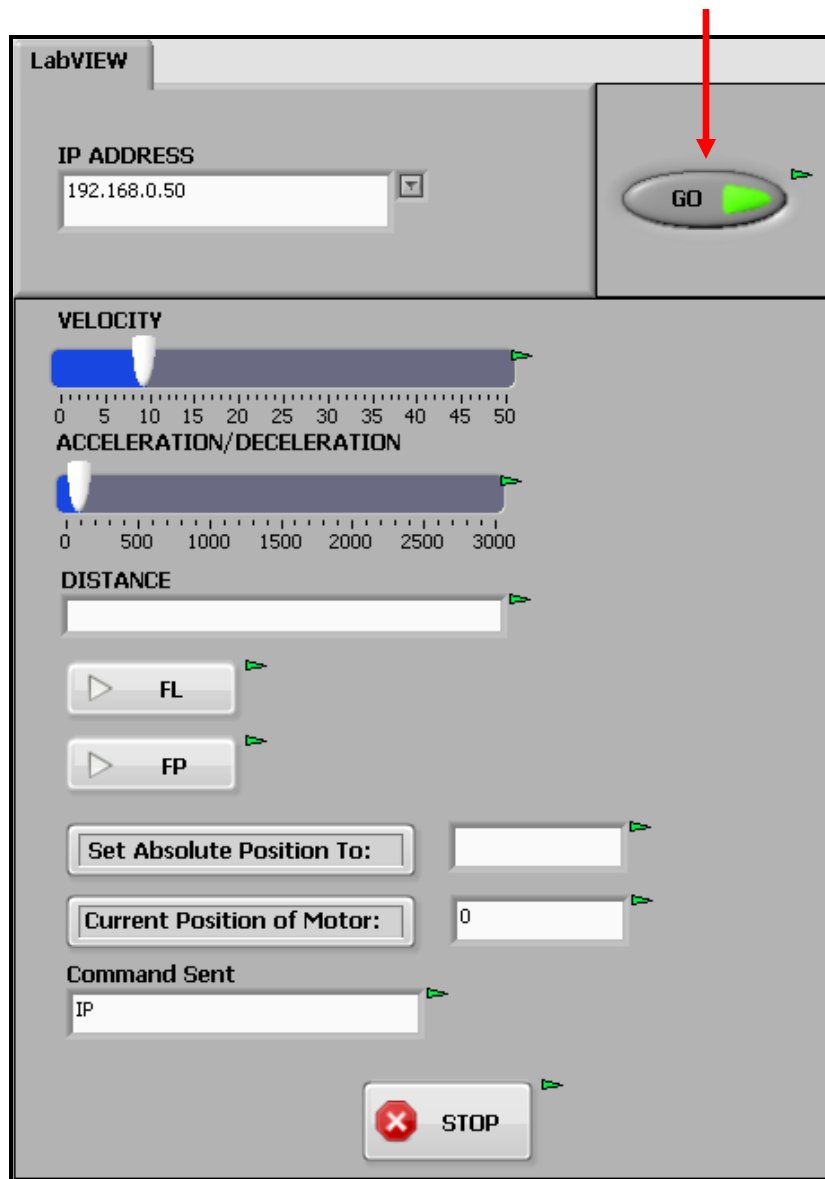
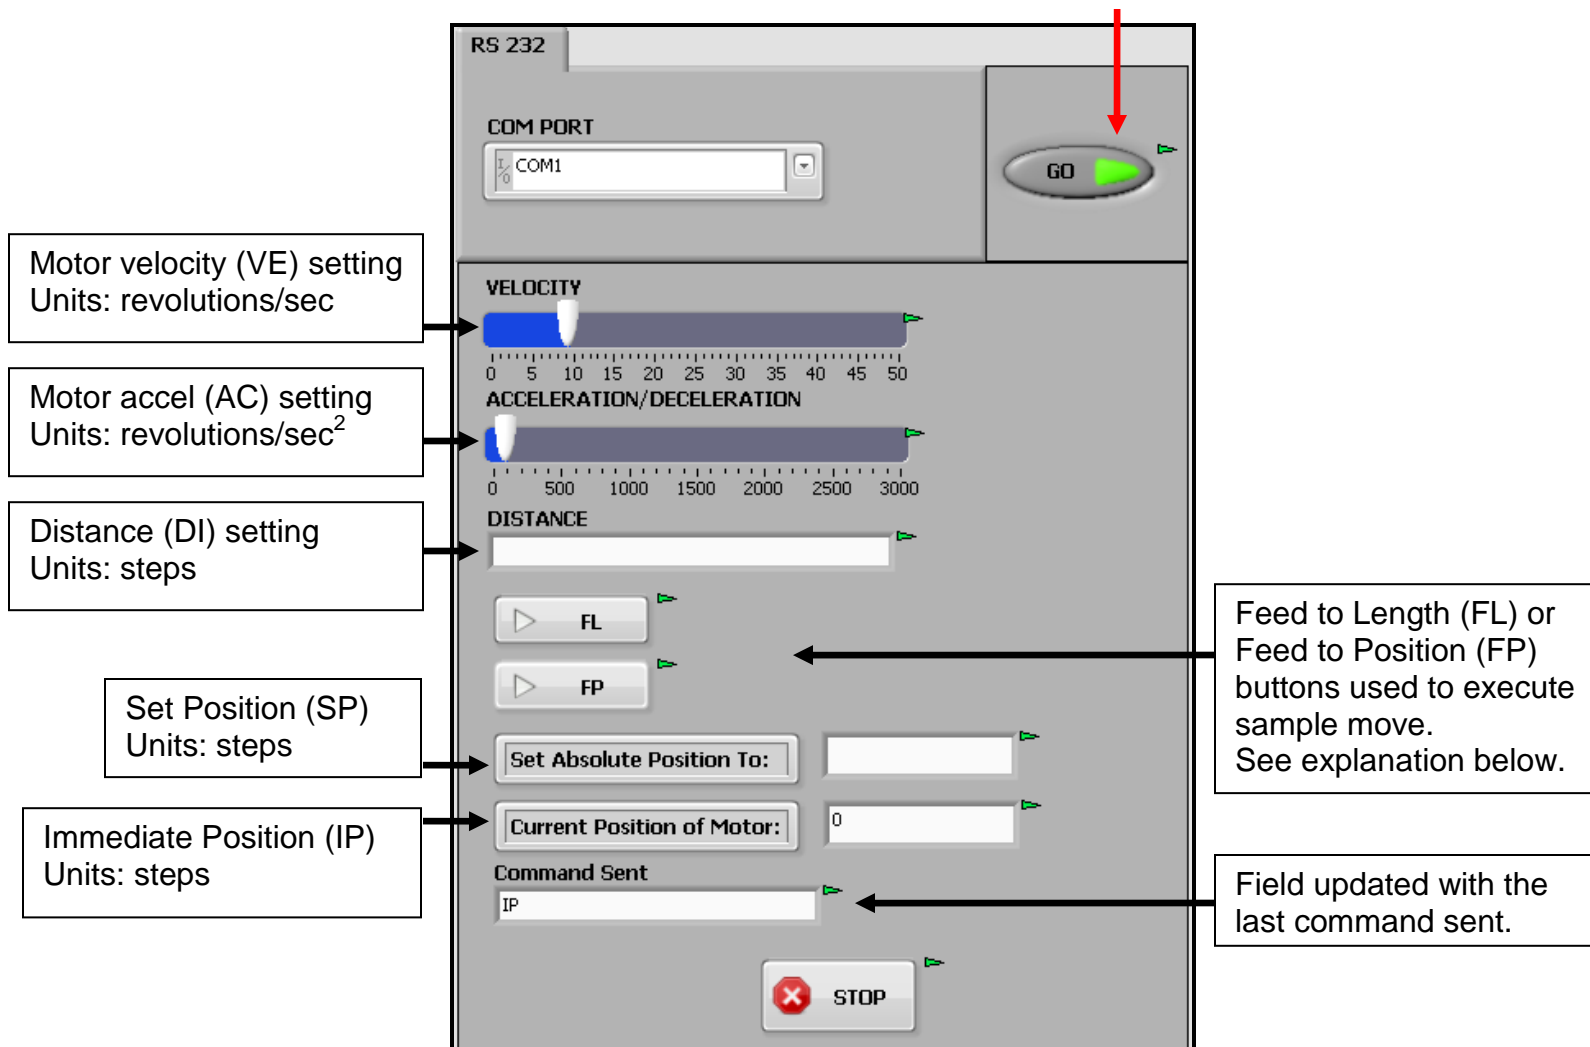

Figure 6: Sample graphical user interface for Ethernet communication
Figure 10: Sample graphical user interface for RS-232 communication
- 4) Run the VI. If a TCP connection is established, considering you set up the IP address of your drive correctly, the “GO” button will light up green indicating that your drive is ready to receive SCL commands as shown in Fig. 6. (See Fig. 10 below for a description of each field and button on the sample user interface.)
3) Run the VI. If a serial connection is established, considering you have selected the COM port the drive is connected to, the “GO” button will light up green indicating that your drive is ready to receive SCL commands as indicated by the red arrow in Fig. 10.